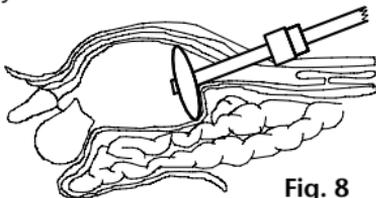

Fig. 8
5. Then pull the complete instrument slightly backwards so that the balloon is tightly pressed against the inside of the access opening. In this position, unlock the lock using the clamping lever, move it distally until it reaches the skin and lock it again in its end position using the clamping lever (see fig. 8).